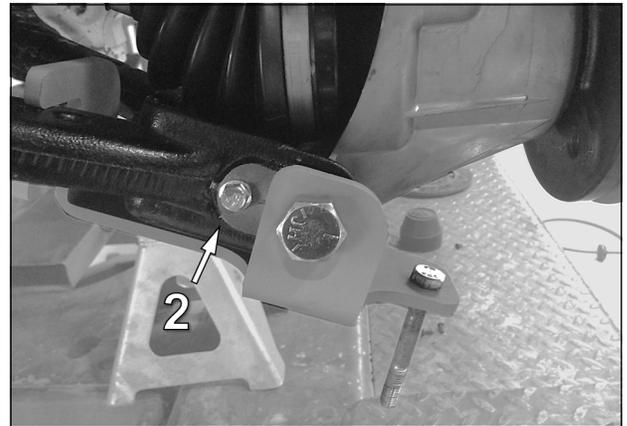

Fig. 9
- Reinstall previously removed bolt (2) to keep dirt out of threaded hole. See Fig. 9